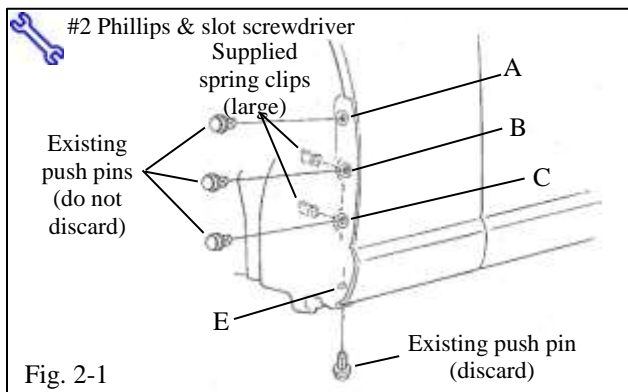

Fig. 2-1
- (a) Remove the existing push pins at locations A, B and C. Keep them for reuse (Fig. 2-1).
- (b) Remove and discard the existing push pin at location E. It will not be reused (Fig. 2-1).
-  (c) Pull the liner forward and install the supplied spring clips (large) centered over the fender edge at locations B and C with the turned up edge on the inside of the panel (Fig. 2-1).